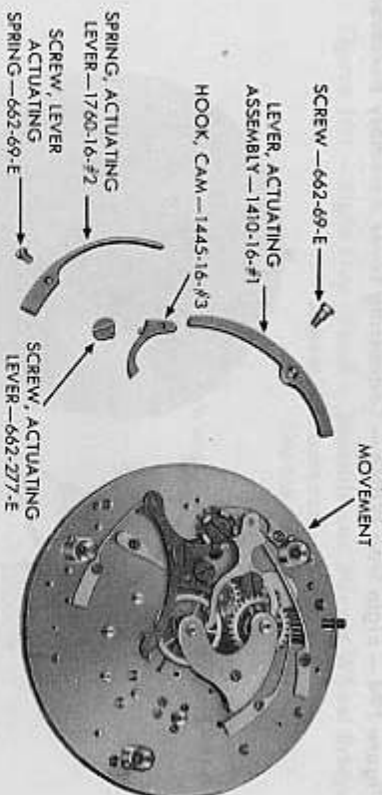

Figure 193 — Elgin Stop Watch — Actuating Lever Assembly Removed
- e. Remove Actuating Lever Spring and Actuating Lever (fig. 193). Remove actuating lever spring screw and spring. Remove actuating lever screw and actuating lever. Remove hook cam screw and hook cam.
h. **Replace Actuating Lever Assembly.** Replace cam hook and screw. Replace actuating lever, placing stud on end of lever in hole of cam hook. Replace actuating lever screw and secure. Replace actuating lever spring and secure in place with screw (fig. 193).